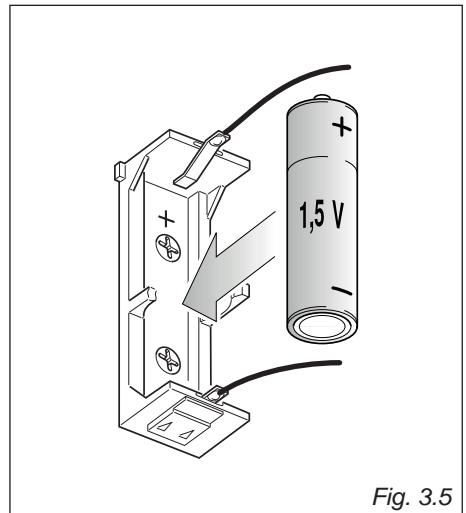

Fig. 3.5
- Insert a type AA battery (1.5 Volt) into the battery holder (fig. 3.5).